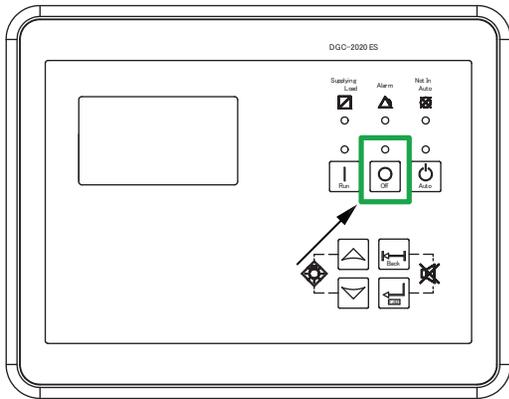

Figure 37. Digital Controller (OFF Button)
3. Press the **OFF button** on the digital controller (Figure 37) to stop the engine, then allow the unit to cool down for a few minutes.
When the remote contacts are opened, the engine will stop. To exit Auto mode, press the **OFF button** on the digital controller (Figure 37). The circuit breaker will automatically turn **OFF** and the engine will stop after a 1-minute cool-down process.
3. Press the **OFF button** on the digital controller (Figure 37).